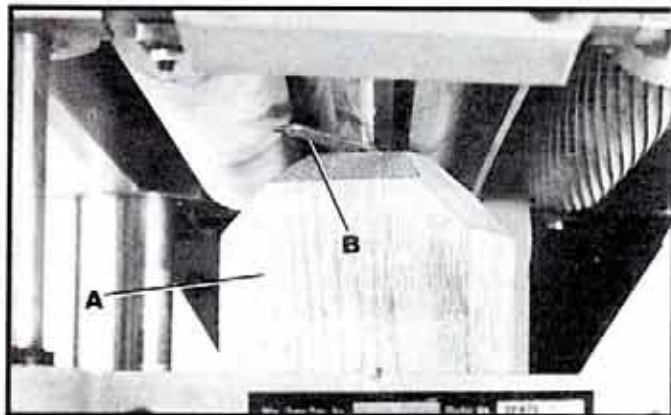

Fig. 38
3. Place the gage block (A) Fig. 38, on the table directly underneath the cutterhead, as shown. Using a 0.040" feeler gage (B) placed on top of the gage block, raise or lower the head assembly until one of the knives just touches the feeler gage when the knife is at its lowest point. Then tighten the head locking knobs.